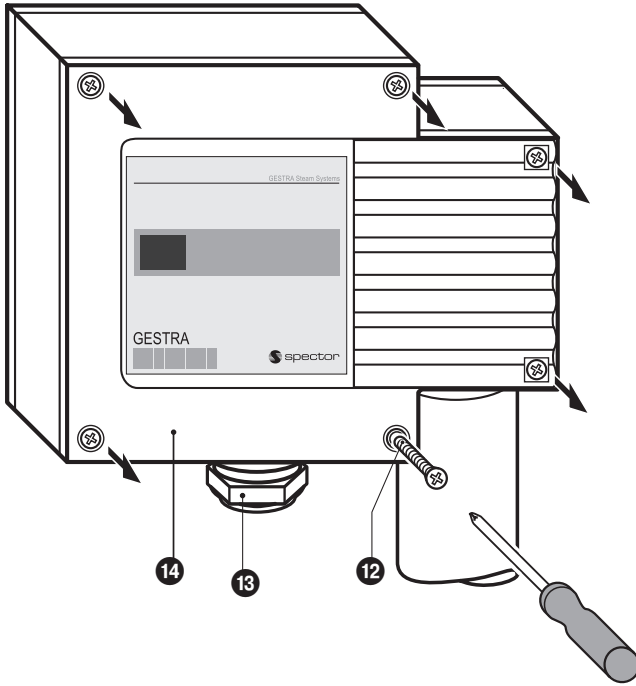

Fig. 13
1. Loosen screws ⑫ and remove housing cover ⑭. **Fig. 13.** The arrow on the name plate points towards this cover.
1. Loosen screws **12** and remove housing cover **14**. **Fig. 13, 14**